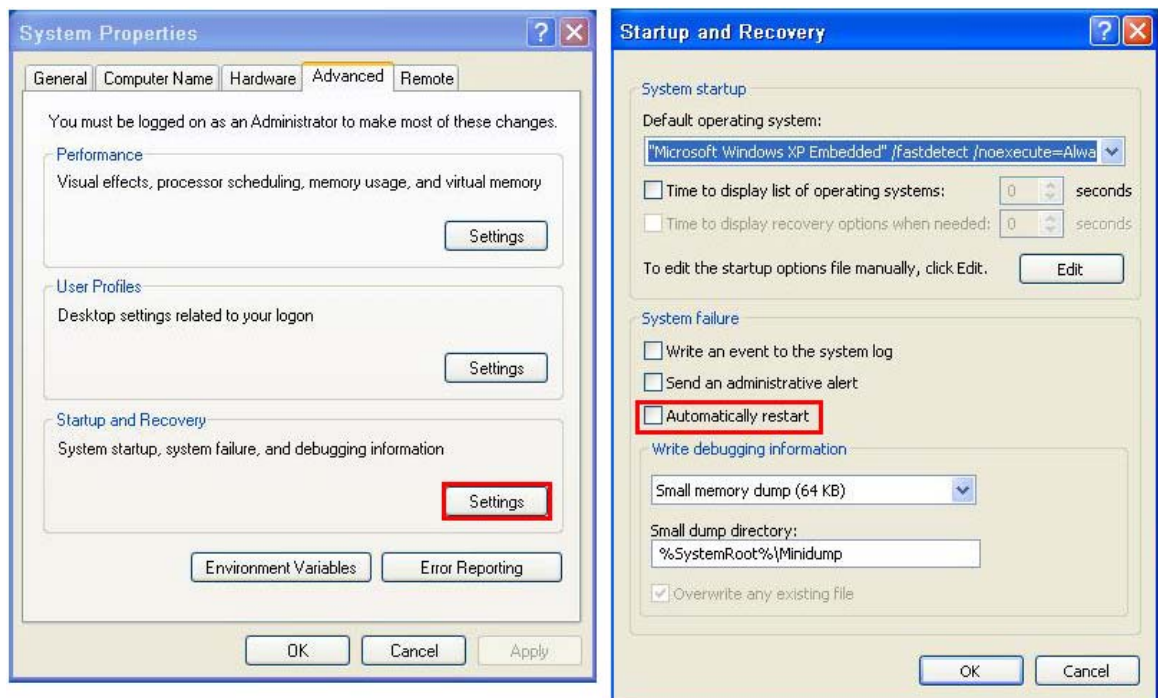

Figure C-23: Disable Automatically Restart
- Step 3:** **Disable the automatically restart function before creating the factory default image.** Go to: My Computer → Properties → Advanced. Click the Settings button of Startup and Recovery. Deselect “Automatically restart”. Click OK to save the settings and exit. (See Figure C-23)